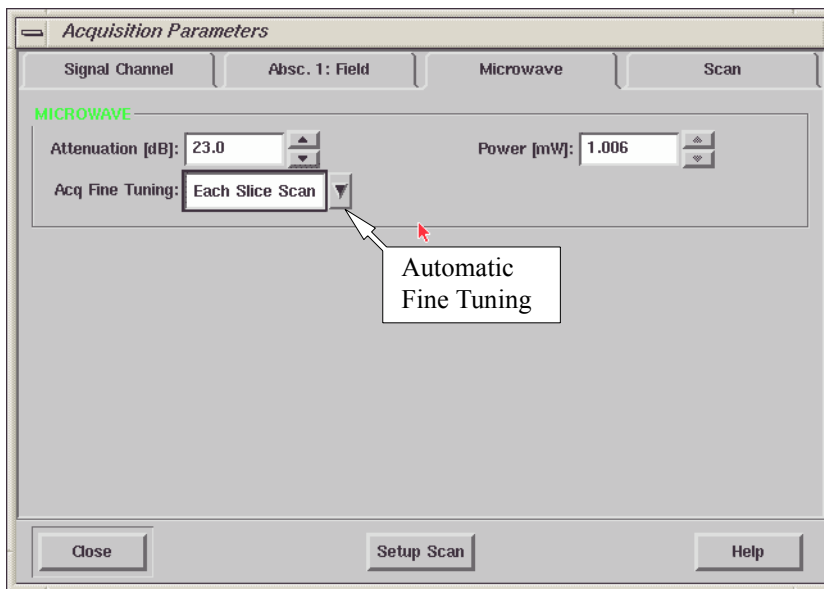

Figure 3-4 Setting the microwave attenuation.
4. **Set the Microwave Power.** Click the Microwave tab and set the Attenuation to 23 dB. We also advise you to select the Before Each Slice Scan option in the Acq. Fine Tuning box to ensure the acquisition is made under proper coupling conditions. It will automatically fine tune the coupling each time a scan starts. (See Figure 3-4.)